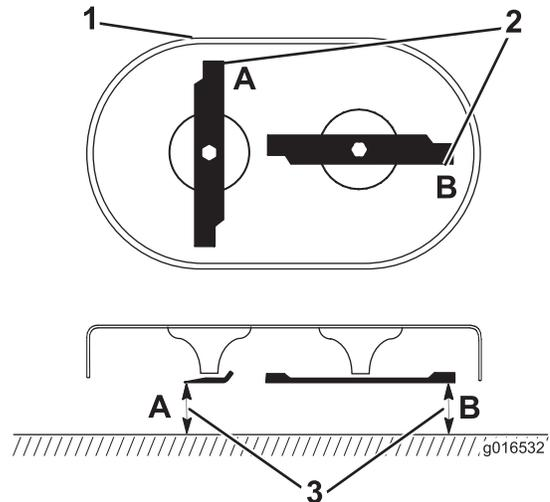

Figure 43
1. Rotate the blades to the position shown in Figure 43.
2. Measure from a level surface to the cutting edges at locations A and B (Figure 43), and record both dimensions.
3. Rotate the blades so that their opposite ends are at locations A and B (Figure 43).